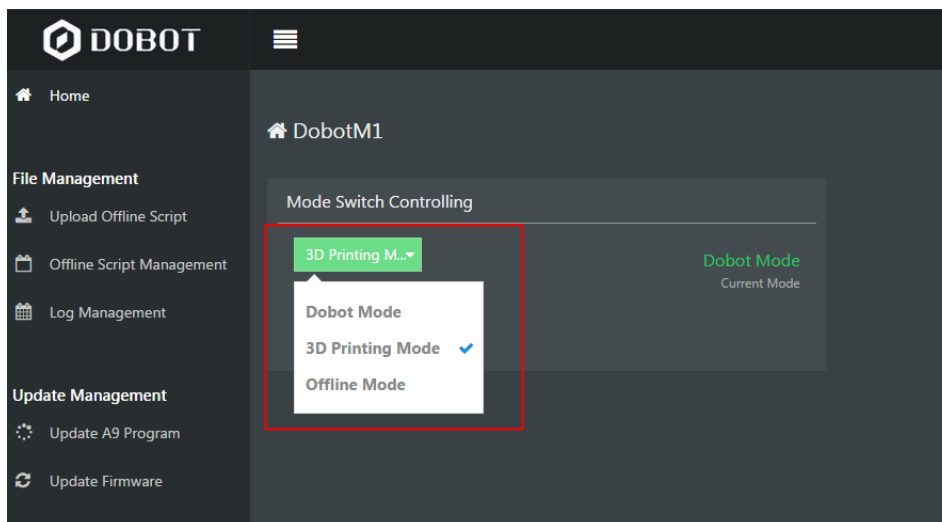

Figure 6.44 Mode switch
Step 10 Select **3D Printing Mode** from the drop-down list on the **Mode Switch Controlling** pane of the **Home** page, as shown in Figure 6.44.